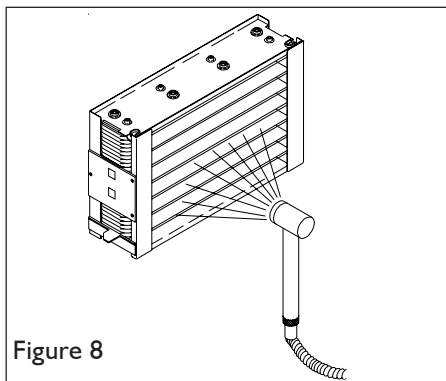

Figure 8
1. Spray the cell with warm water using e.g. a hand shower (figure 8) in a tub or sink.
3. Allow the detergent to work for about 5 to 15 minutes. Flush then carefully with warm water (figure 8).
1. First spray or flush the collector cell with warm water (figure 8).